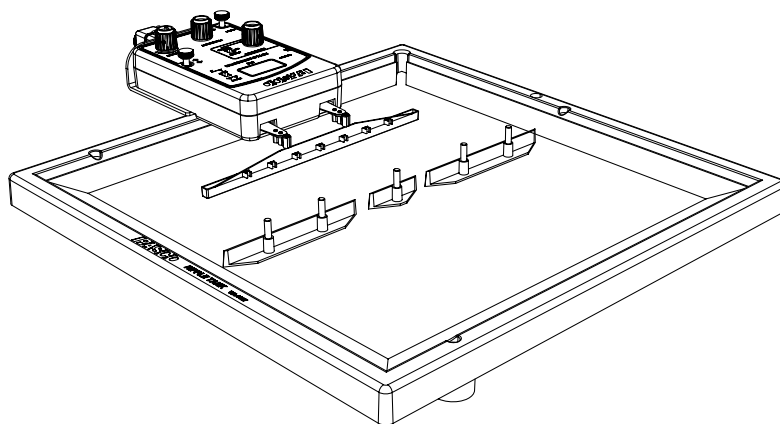

Figure 4.2: Position of Barriers
1. Place the short barrier between the two long barriers in the water to form two openings that are 2 cm long. Put the barriers parallel to the plane wave dipper as shown in Figure 4.2. Set the barriers about 5 cm from the plane wave dipper